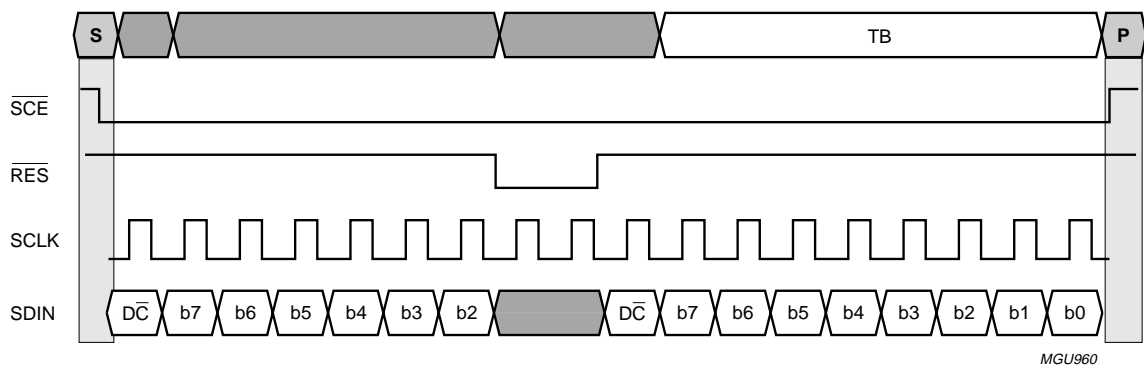

Fig.44 Serial bus protocol, Write mode, interrupted by reset (\overline{RES}); (PS[2:0] = XX0).
- A reset pulse at pin RES interrupts the transmission. The data being written into the RAM may be corrupted. The registers are cleared. If SCE is LOW after the rising edge of RES, the serial interface is ready to receive the D/C bit of a data/command byte; see Figs 44 and 50.